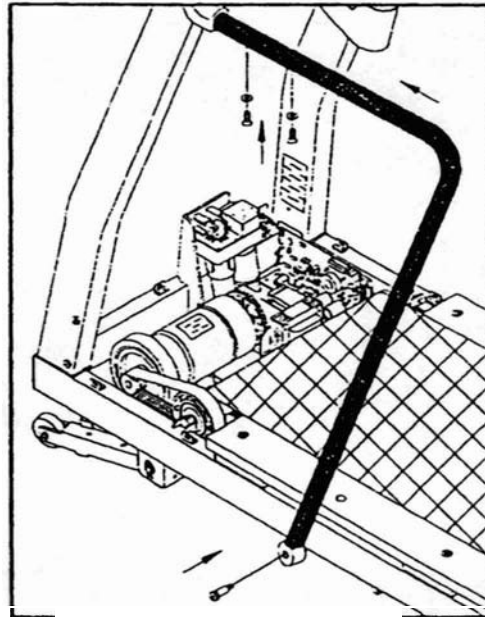

Fig. 11
5. Secure the handlebars. (see Fig. 11)